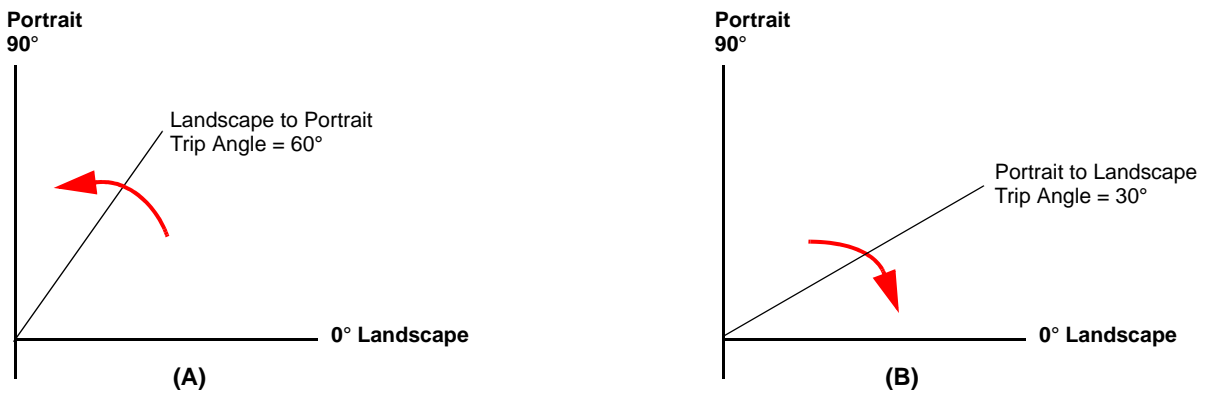

Figure 8. Illustration of Landscape to Portrait Transition (A) and Portrait to Landscape Transition (B)
Figure 8 shows the definitions of the trip angles going from Landscape to Portrait (A) and then also from Portrait to Landscape (B).